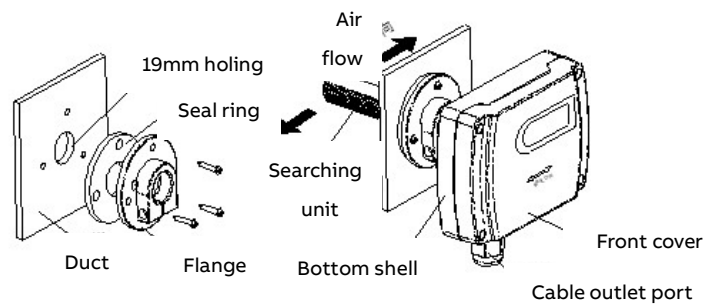

Figure 7
1. Install with the flange, according as figure 7